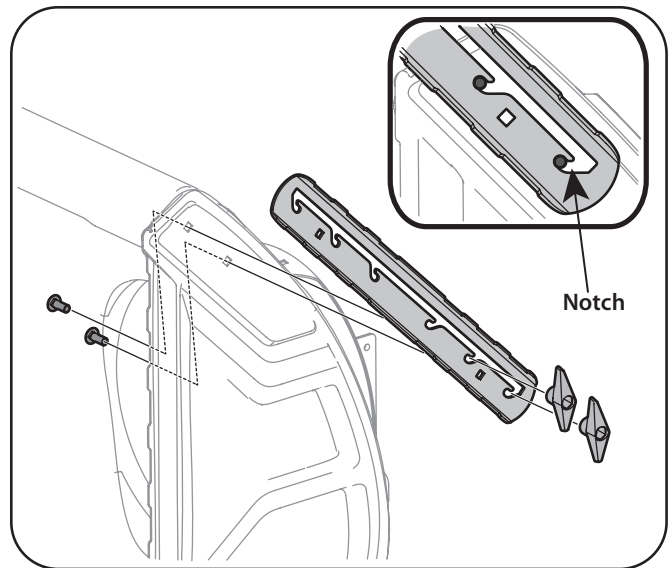

Figure 3-12
Drift cutters are assembled at the factory for shipping purposes. Assemble the drift cutters as shown in Figure 3-12 prior to operating your snowthrower.
2. Reposition the drift cutters to the housing with the notches facing to the front of the unit as shown in Figure 3-12. Secure with plastic wingnuts and carriage bolts. Bolts should be on the inside of the housing and seated in the notches of the drift cutter, see inset Figure 3-12.